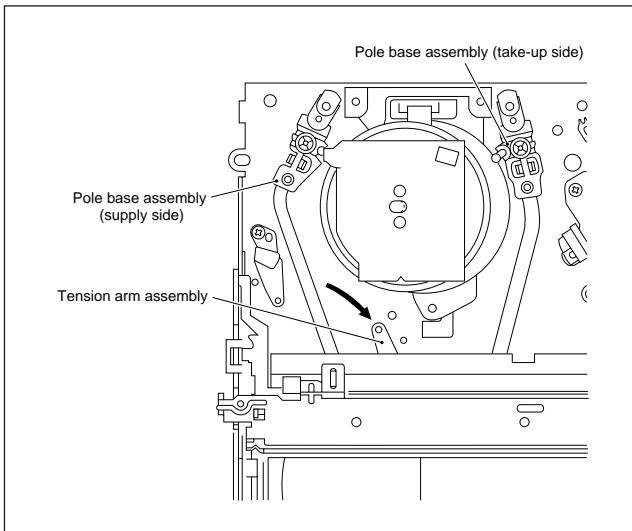

Fig. 2-1-3c
- (1) Unplug the power cable and remove the top cover, front panel assembly and others so that the mechanism assembly is visible. (See SECTION 1 DISASSEMBLY.)
- (2) While keeping the tension arm assembly of the mechanism assembly free from tension, pull the tape on the pole base assembly (supply or take-up side) out of the guide roller. (See Fig.2-1-3c.)